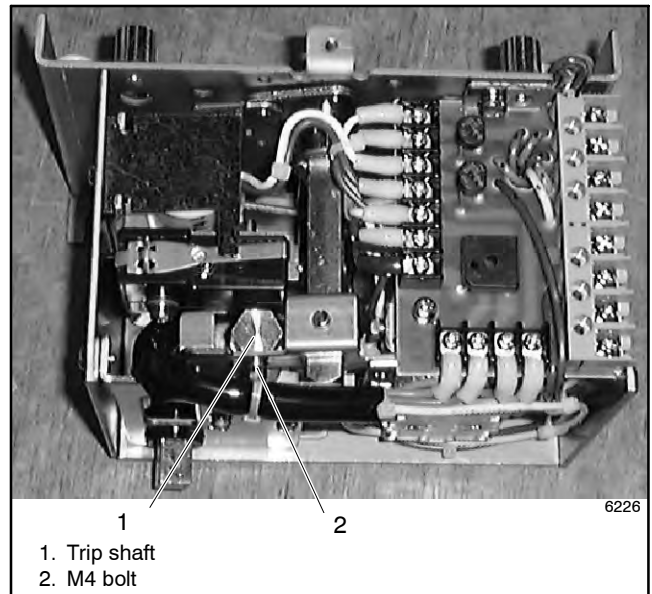
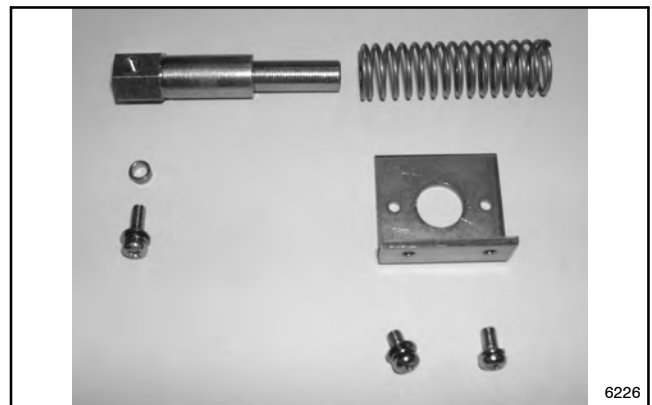

Figure 7-24 Trip Shaft Location
Figure 7-25 Trip Shaft Parts
4. The trip shaft is spring-loaded. Hold the shaft securely while removing the trip shaft bolt. See Figure 7-24. Remove the M4 bolt with ring, trip shaft, spring, and L-shaped bracket. See Figure 7-25. Keep the parts for reassembly later.